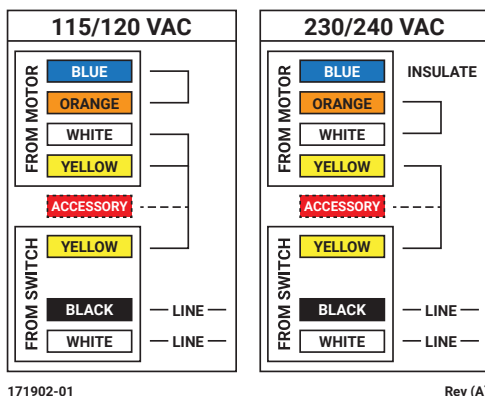

Figure 7a
- Match voltage, connect motor to power supply phases. (see Figures 7a/7b)
- Position wires inside the junction box and replace electrical cover. Install all four (4) screws.